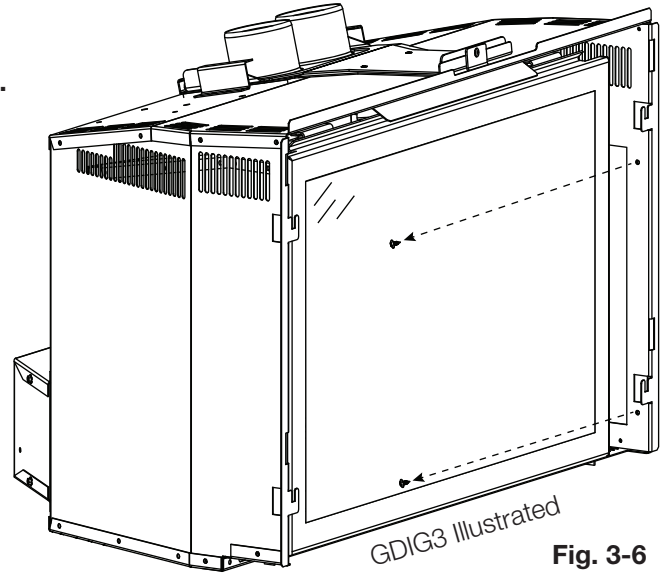

Fig. 3-6
2. Remove the front 2 screws from the inside edge (**Fig. 3-6**) and swing the control door open.